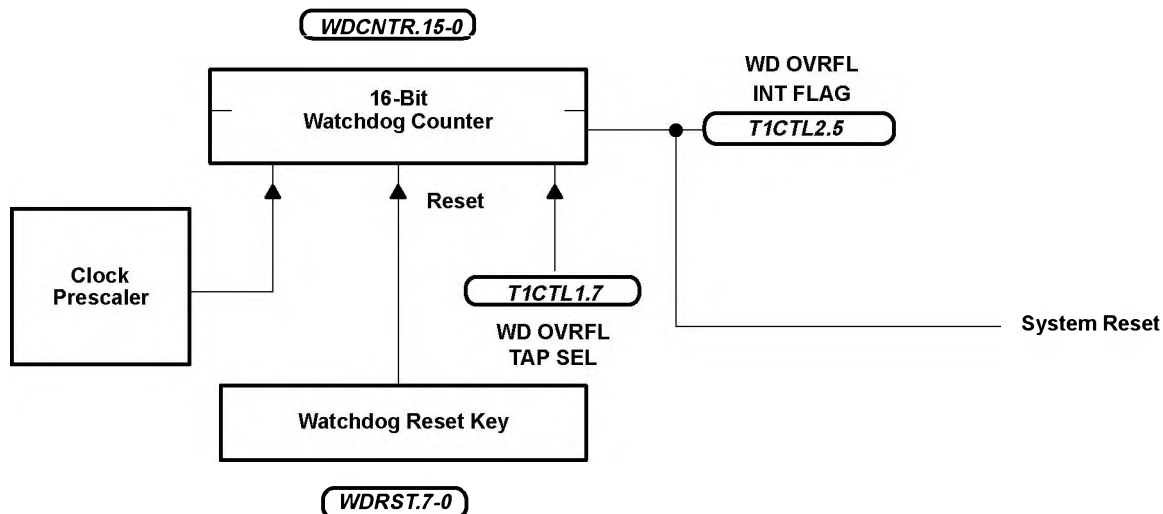

Figure 10. Hard Watchdog
- Hard watchdog configuration (see Figure 10) for 'C712B EPROM and mask-ROM devices: